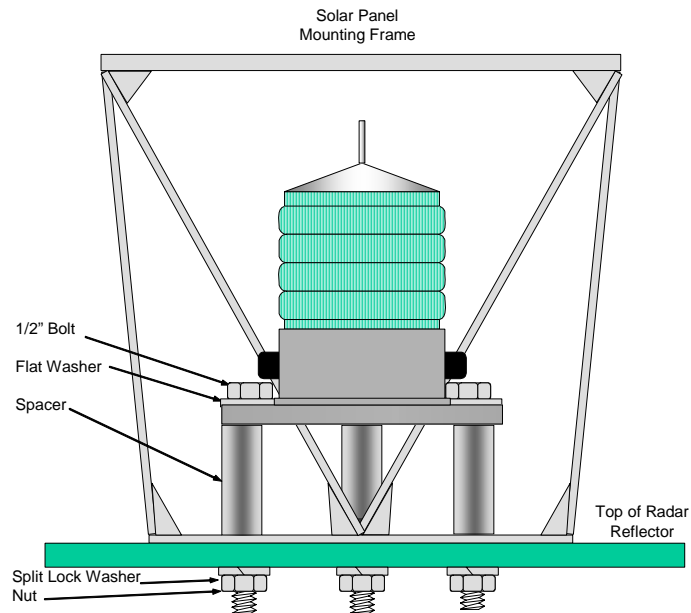

Figure 3-23
- c. On buoys the lantern should be elevated at least 4" so that the lantern ring does not obstruct the light, as shown in Figure 3-23. Spacers are available from the manufacturer or can be fabricated locally.